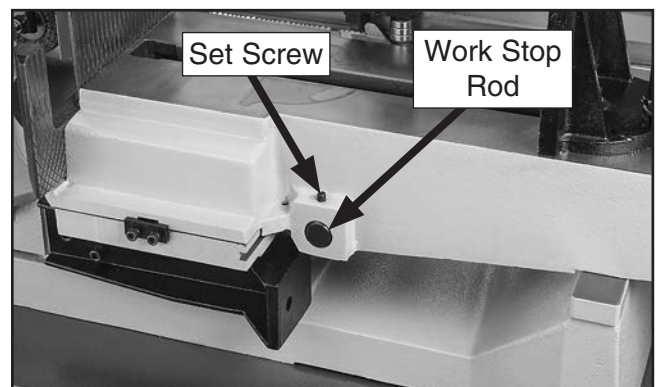

Figure 38. Location of rear set screw for setting stop rod flush with vise bed casting.
5. Adjust work stop rod so it is flush with back of vise bed casting, as shown in **Figure 38**.